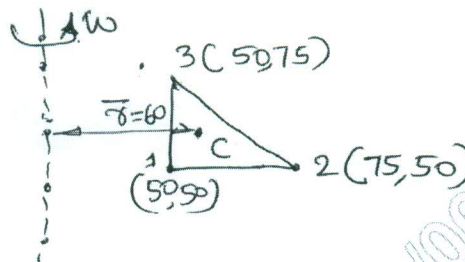

Fig.Q9(b)
- b. For the element of an axisymmetric body rotating with constant angular velocity  $W = 1000 \text{ rev/min}$  as shown in Fig.Q9(b). Determine the body force vector including weight of material with specific density is  $7850 \text{ kg/m}^3$ . (08 Marks)